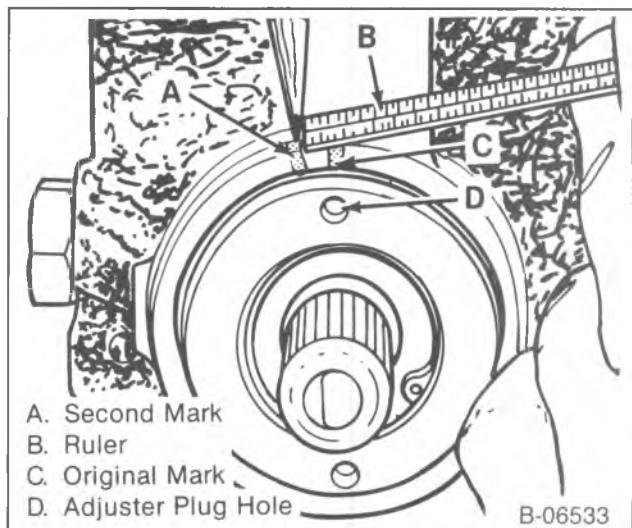

Figure 18—Remarking the Housing
- Measure back (to the left) 13 mm (1/2-inch) and re-mark the housing (figure 18).